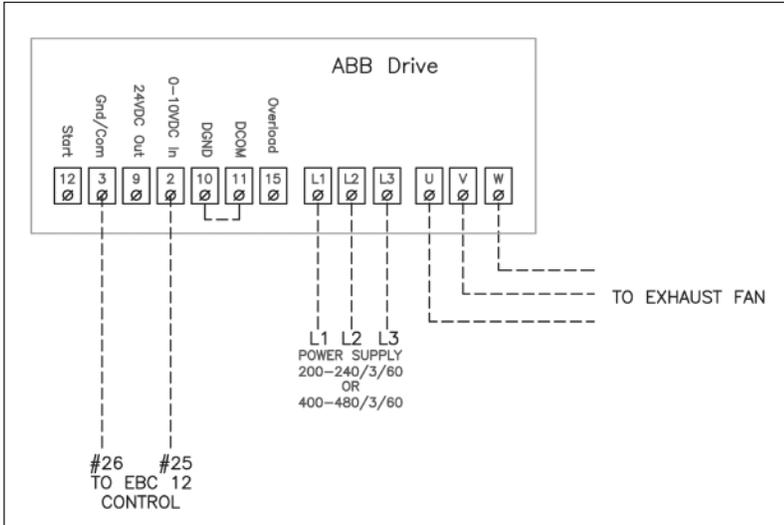

Fig. 10
- ▶ If using a 3-phase fan and VFD, connect the VFD to terminals 25 and 26 as shown in Fig. 10 and 11. **DO NOT** connect the fan directly to the MEC 18 control.
- ▶ If using a 3-phase fan and VFD, connect the VFD to terminals 25 and 26 as shown in Fig. 10 and 11.
Wire the ABB ACS320 series variable frequency drive according to fig. 10.